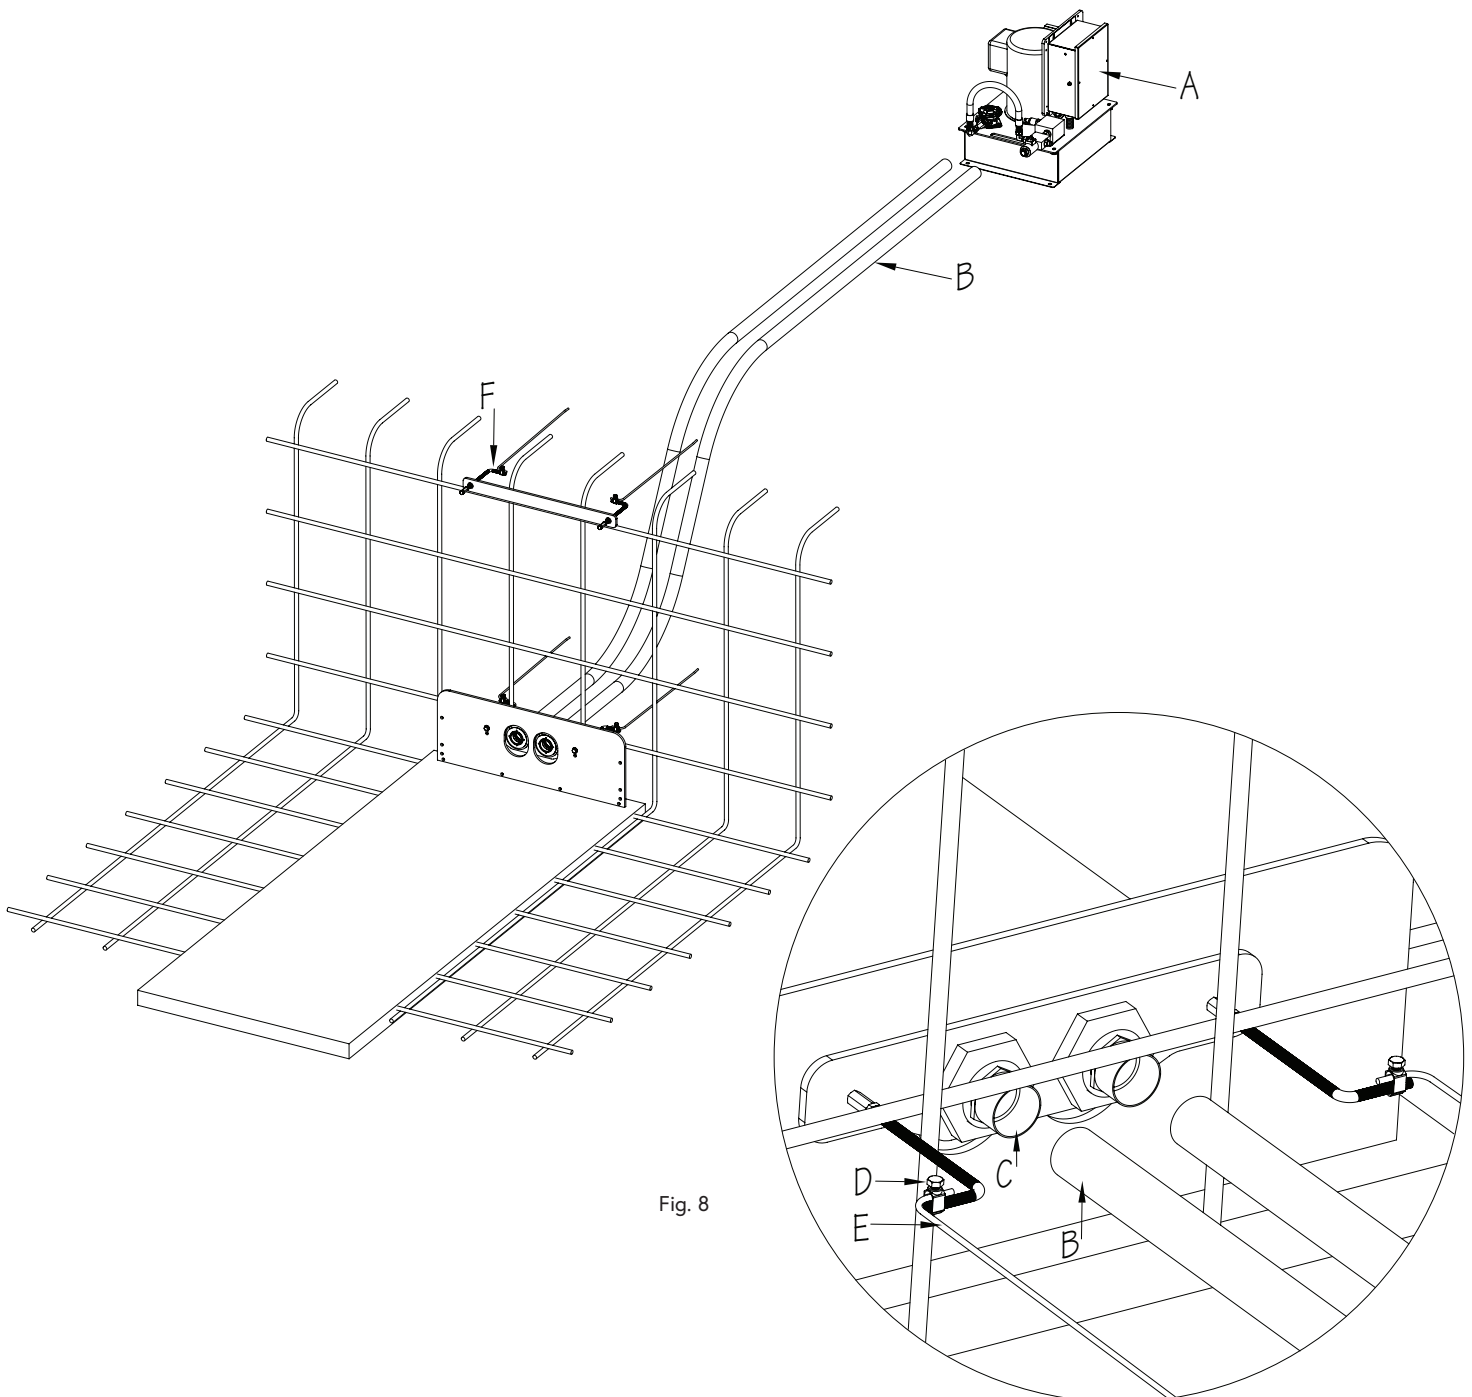

Fig. 8
5. The location of the Hydraulic Power Unit (A) should be determined at this point in the installation. Unroll the lengths of 1-1/2" (38mm) flexible PVC Pipe (B) from the back of the Fastlane® Tread mounting kit to the Hydraulic Power Unit. **The conduit run MUST travel above the pool's waterline.** Any bends in the pipe MUST be gradual sweeps and not sharp bends to allow the hydraulic hoses to be easily fed through each conduit. Glue the PVC Pipes (B) into the Adapters (C) on the backside of the mounting bracket (Fig. 8).
The rods attached to the bracket MUST be tied into the pool's bonding grid. Install a Bonding Clamp (D) onto each rod. Attach a #8 Solid Copper Wire (E) to each Bonding Clamp and then run these wires to a connection that is incorporated into the pool's bonding grid. In most cases this will be a connection in the rebar. Repeat for the rods attached to the Grab Bar Mounting Kit (F) (Fig. 8).